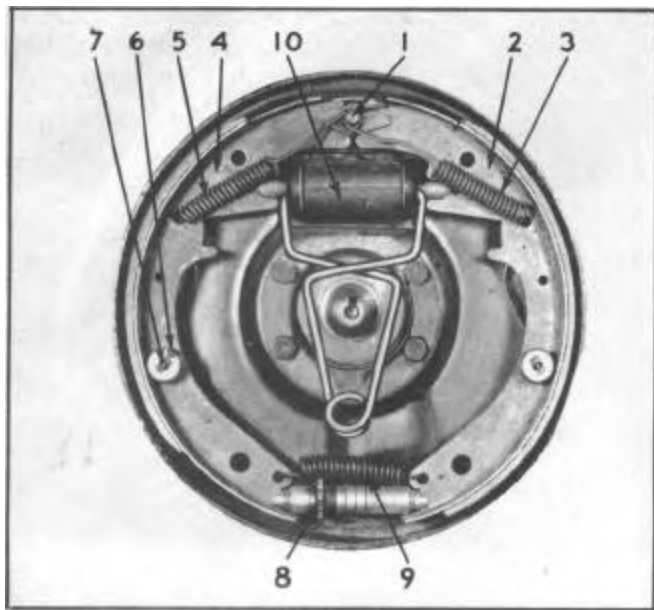

FIGURE 7
1. Install Wheel Cylinder Clamp KMO-145 on wheel cylinders as shown in Figure 7 to prevent the piston seals being forced out of position.
2. Remove the brake shoe to anchor pin springs (3) and (5).
3. Press in and turn hold down spring cups (6) and remove cups, springs and pins on both shoes.
5. Remove adjusting screw (8).
6. Disconnect adjusting screw spring (9).